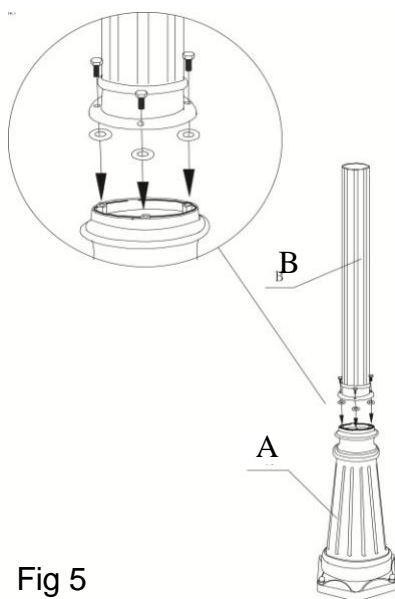

Fig 5
4. Make sure the lamp base (A) is stable before proceeding in installation.
5. Place part (B) over part (A) and using a wrench tighten the three screws that are provided. Make sure that the rubber washers go between part (A) and part (B) **(Fig 5)**.